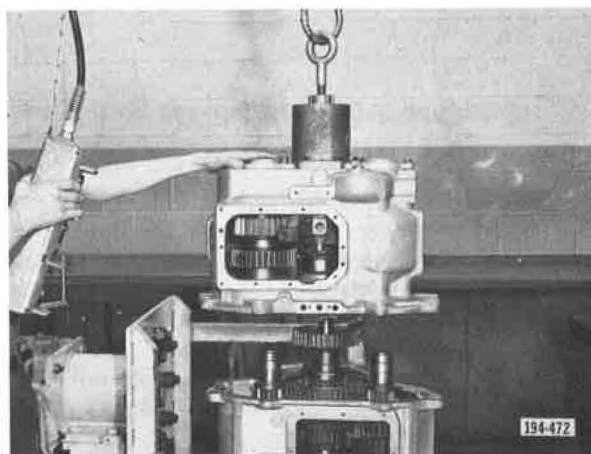

Figure 5-695. Removing Rear Case
31. Remove rear case from front case, using a hoist and lifting eye. Keep cases in good alignment while separating, to prevent binding of countershaft bearings. See **Figure 5-695**.